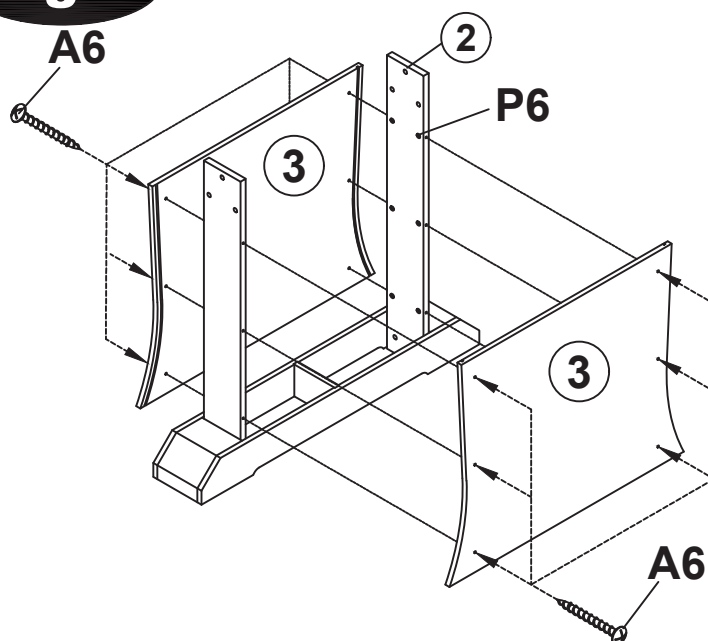

Fig 2
4. Attach the Leg Panels(3) to the Leg (2) using six Screws (A6) per Leg Panel. See FIG. 2.